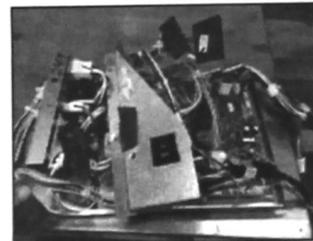

FIGURE 19
**IMPORTANT:** Do not use the two screws removed in step 15 to reconnect the switch plate assembly to the replacement HV box assembly at this time. See Figure 19.